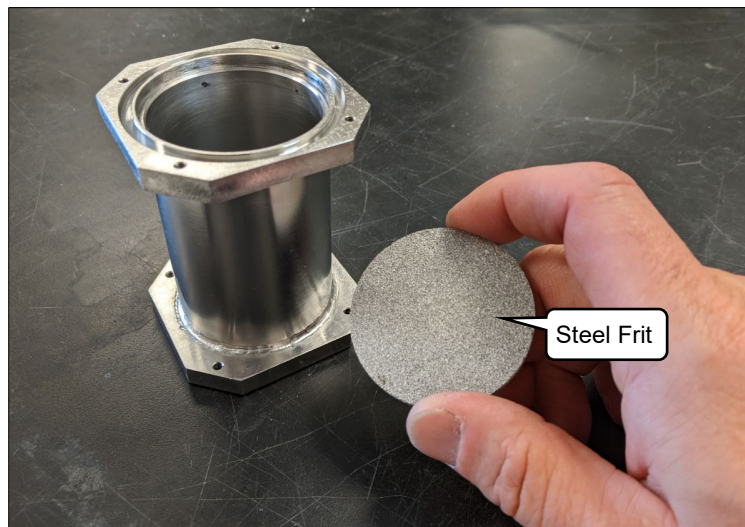

Figure 52: Bottom Frit Removal
11. Remove the steel frit as shown in Figure 52 below.